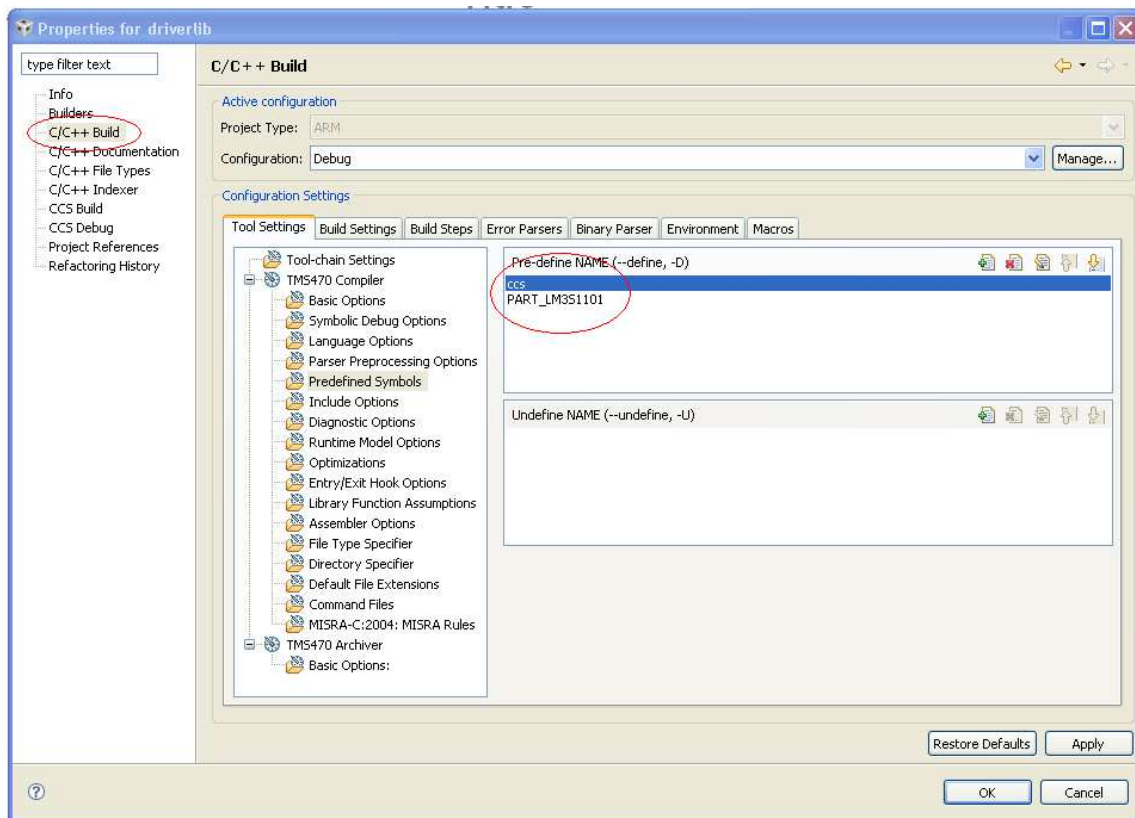

Figure 28. Properties for driverlib (Pre-Defined Name)
9. Next, as shown in Figure 28, select Predefined Symbols and add additional defines to the Pre-define NAME section by clicking on the  button. Add Pre-define NAMEs as shown in the red circle in Figure 28. Pay attention to the letter cases and include the following two symbols: